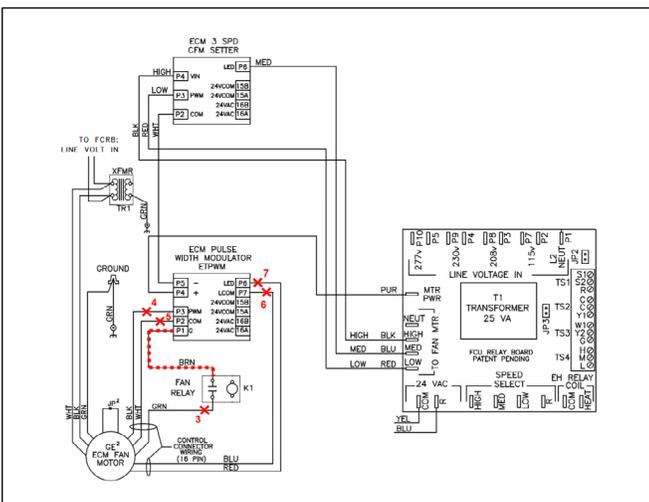

Figure 3 – Remove Motor Signal Wires
REMOVE MOTOR SIGNAL WIRES (See Figure 3)
- Remove wire between P1 and fan relay (K1) contact and discard (BRN in Figure 3, but color may vary depending on unit).
- Remove wires between P1 on both PWM boards and fan relay (K1) contact and discard (BRN in Figure 3, but color may vary depending on unit). The fan relay contacts will not be used with the Select PWM board.